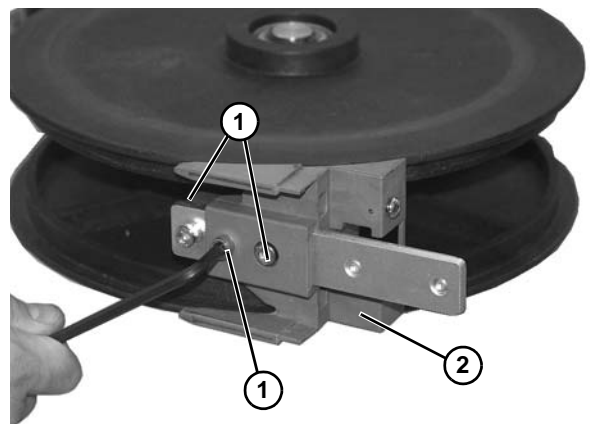

Figure 145
- Remove screw (**Figure 145, item 1**) on both sides of guard cover (**Figure 145, item 2**). Remove guard cover.
- Remove screws (**Figure 145, item 1**) from wheel guide (**Figure 145, item 2**).